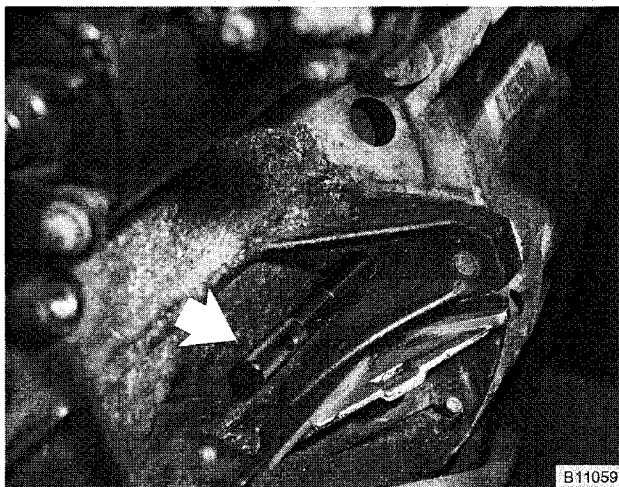

Fig. 5. BMW special tool 11 2 300 (arrow) inserted through bell-housing hole and into flywheel.
2. Set engine to TDC and lock into position by installing BMW special tool 11 2 300 through transmission bellhousing and into hole in flywheel or drive plate. See Fig. 5.